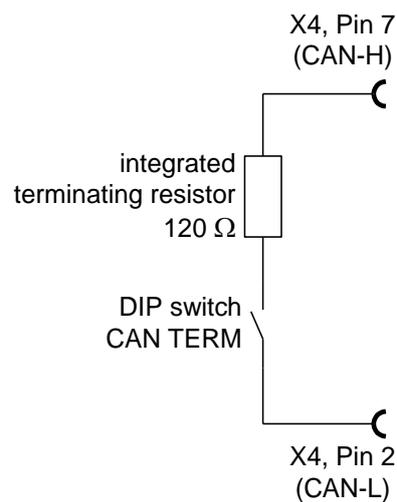

Figure 28: Integrated CAN terminating resistor
- ❖ On both ends of the CAN bus cable must be exactly one terminating resistor of 120 Ω +/- 5 %. The ARS 2100 FS servo positioning controller is equipped with an integrated terminating resistor that can be activated/deactivated with the aid of the DIP switch "CAN TERM" that is located on the front panel (see *Figure 11* and *Figure 28*)